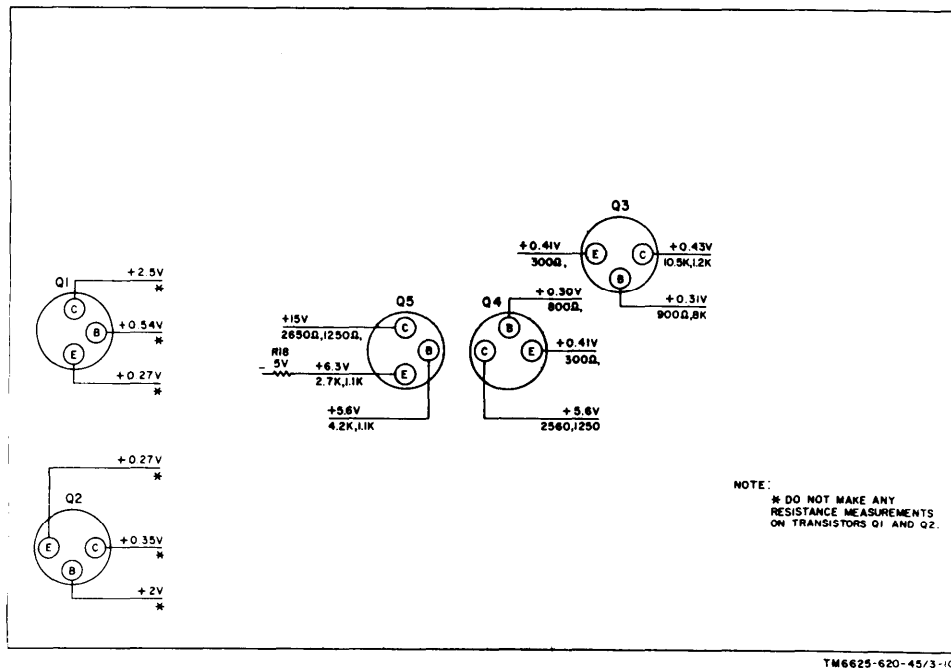

Figure 3-8. Timing circuit assembly 3A1A3, voltage and resistance diagram.
- (2) In-circuit resistance measurement of assembly 3A1A3 (fig. 3-8) were taken with the assembly in the TS-836/UGM-1. First, measure between the base and emitter and between the base and collector with the positive ohmmeter lead connected to the base, and then measure between the base and emitter and between the base and collector with the negative ohmmeter lead connected to the base.